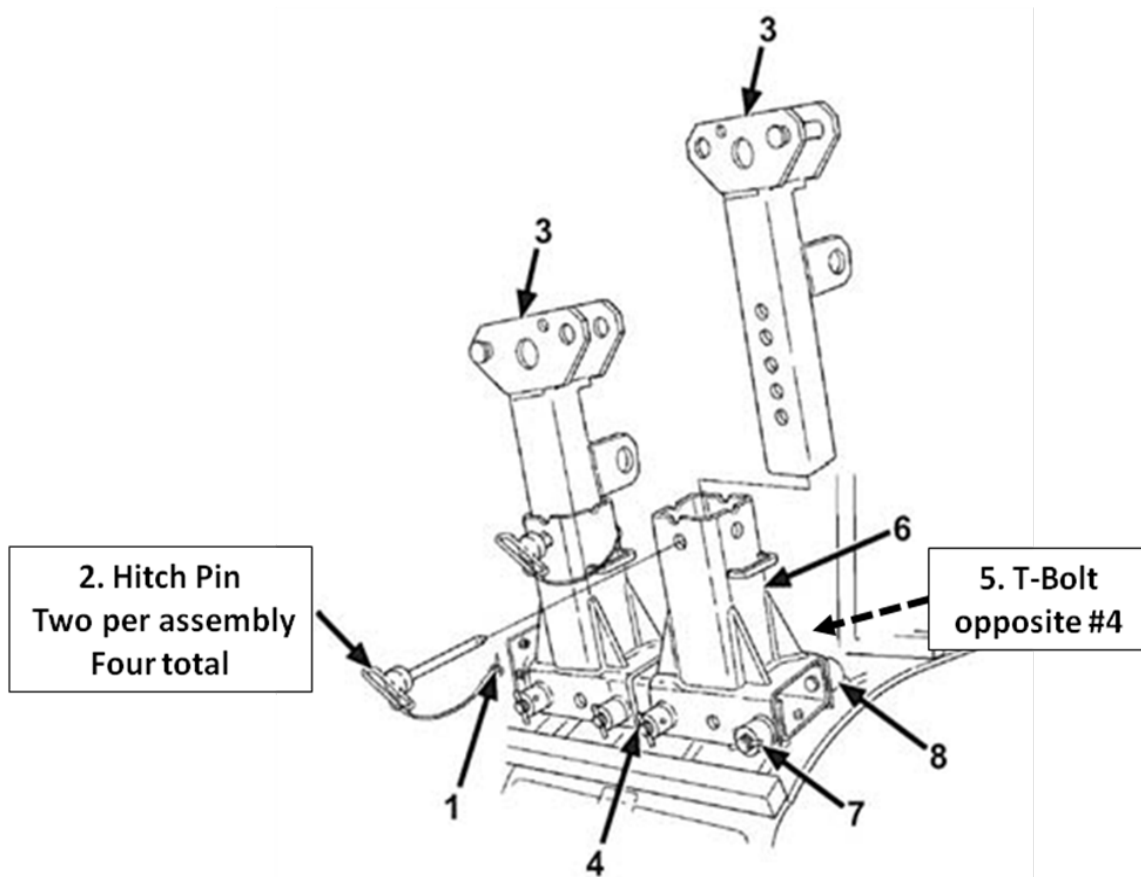
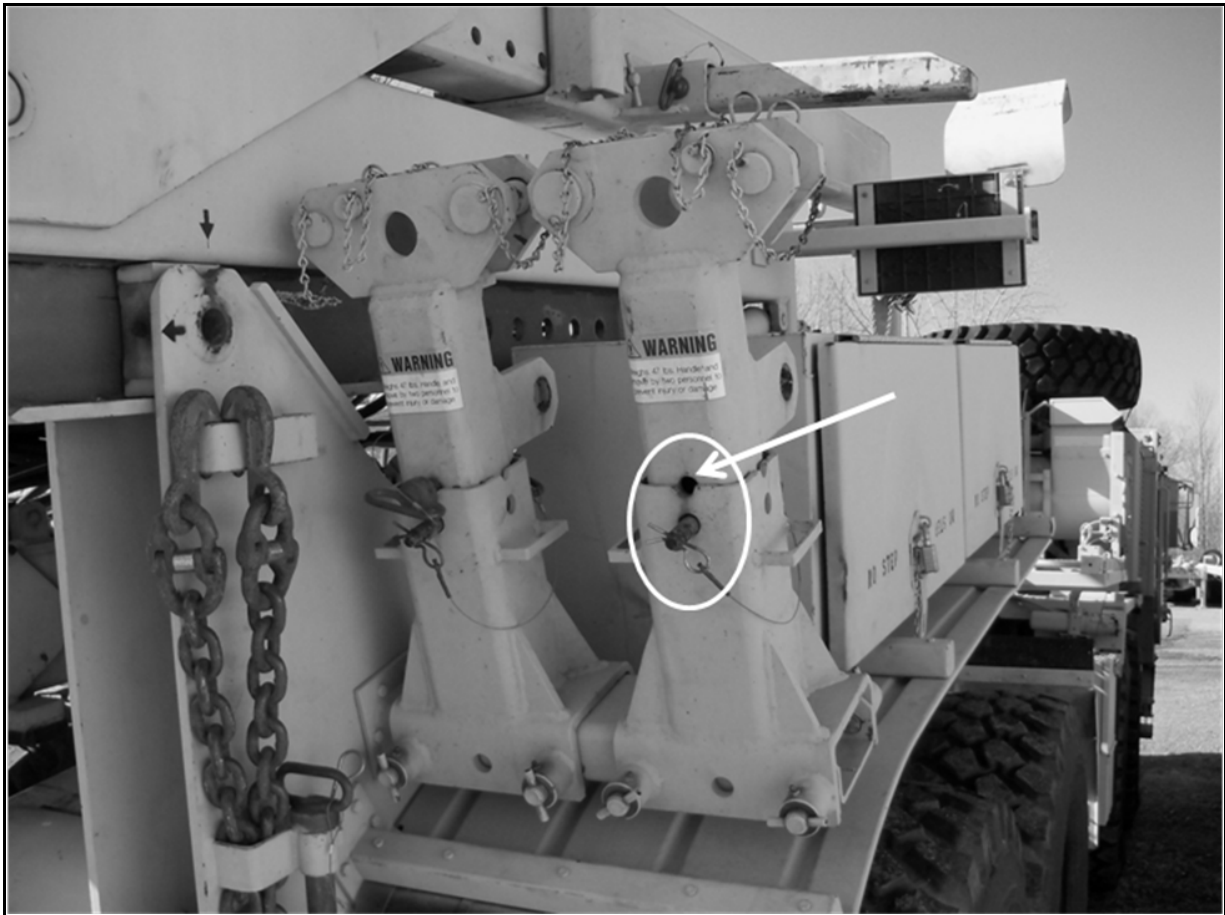

Figure 1 – Tow Bar Assemblies
Figure 2 – Upper hitch pin removed. Lower pin left in place
Refer back to Figure 1 for Item numbers referenced in the steps.
1. Remove spring pin (1) from hitch pin (2) and remove the top hitch pin from upper section of the outer tow bar assembly (3) (figure 1). Set aside hitch pin (2) for future use. Leave the lower hitch pin in place. (figure2)